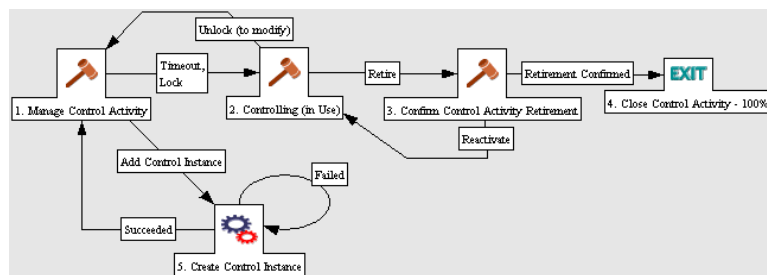

Figure 4-6. Control activity lifecycle
- Figure 4-6 shows the control activity lifecycle.